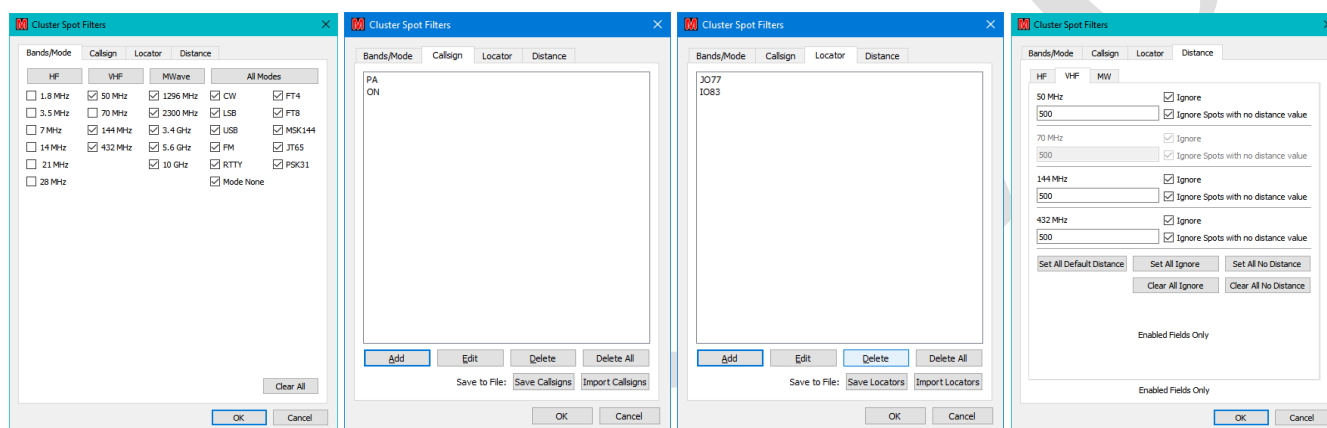

Figure 145 – Setting up filters
The content of the display can be controlled by clicking the “**Filters**” button and adjusting the Band/Mode of interest or the callsigns/locators to be watched and the distance constraints (see Figure 145).
The Distance filters further restrict the spots displayed on the basis of the specified maximum ranges¹²⁶. Note in Figure 145 (4) that the 70MHz box is disabled because 70MHz is not selected in in Figure 145 (1).